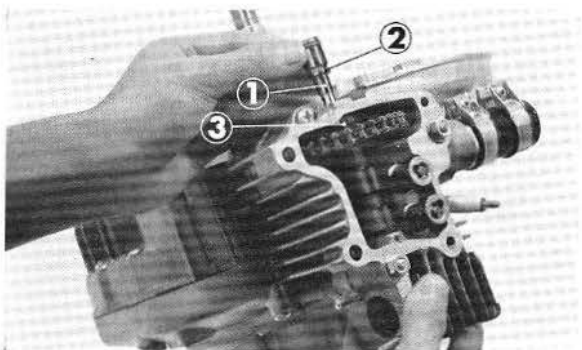

Fig. 2-23 ① Center pin ② 8.1×1.0 O ring ③ Oil guide
6. Align the holes in the oil guide and center pin and tap the center pin in with light stroke. (Fig. 2-23)